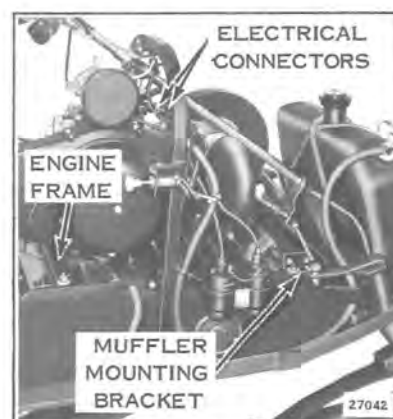

Figure 9-5
5. Disconnect two engine electrical connectors. See Figure 9-5.
7. Remove four nuts securing each muffler mounting bracket. See Figure 9-5.
8. Remove four nuts and washers attaching engine frame to chassis. See Figure 9-5.